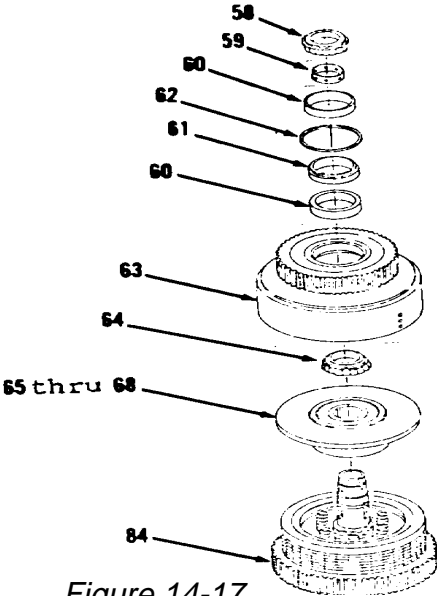
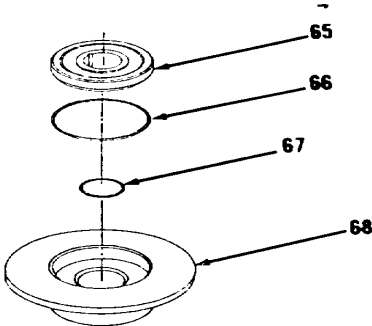

Figure 14-17.
Figure 14-18.
56. Remove roller bearing (58), spacer (59), two bearing cups (60), spacer (61), retaining ring (62), drum gear (63) and roller bearing (64, Figure 14-17).
57. Remove items 65 thru 68 as an assembly from shaft (84).
58. Remove plate (65) from piston clutch (68, Figure 14-18).
59. Remove and discard seal ring (66) and preformed packing (67).